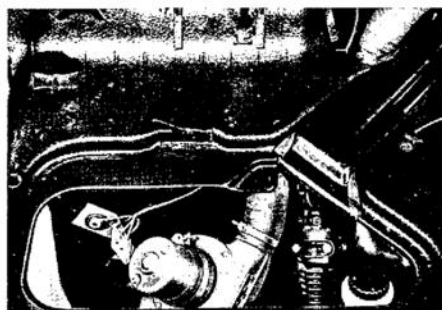

Fig. 32
10. Relocate wire loom as shown in Fig. 32.
13. Install air blower as shown in Fig. 32. Ensure good seating of the sealing ring and screen of the air intake stack.